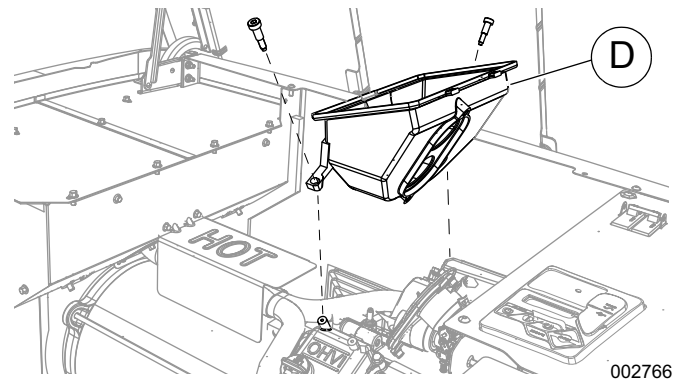

Figure 7. Removing the Airbox Base (11–22 kW)
2. See Figure 7. Unscrew and remove the airbox base (D).